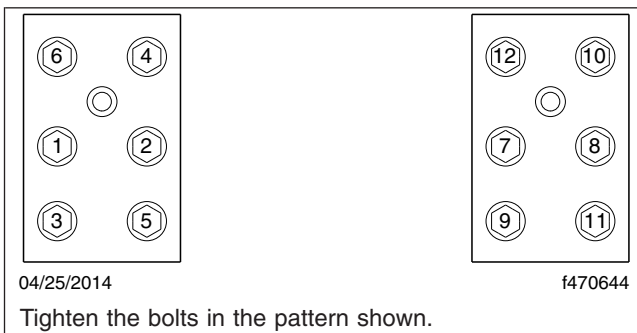

Fig. 5, Tightening Sequence (one side shown)
4. Following the pattern shown in Fig. 5, sequentially tighten the bolts on each mounting bracket a minimum of three times, according to the following schedule.